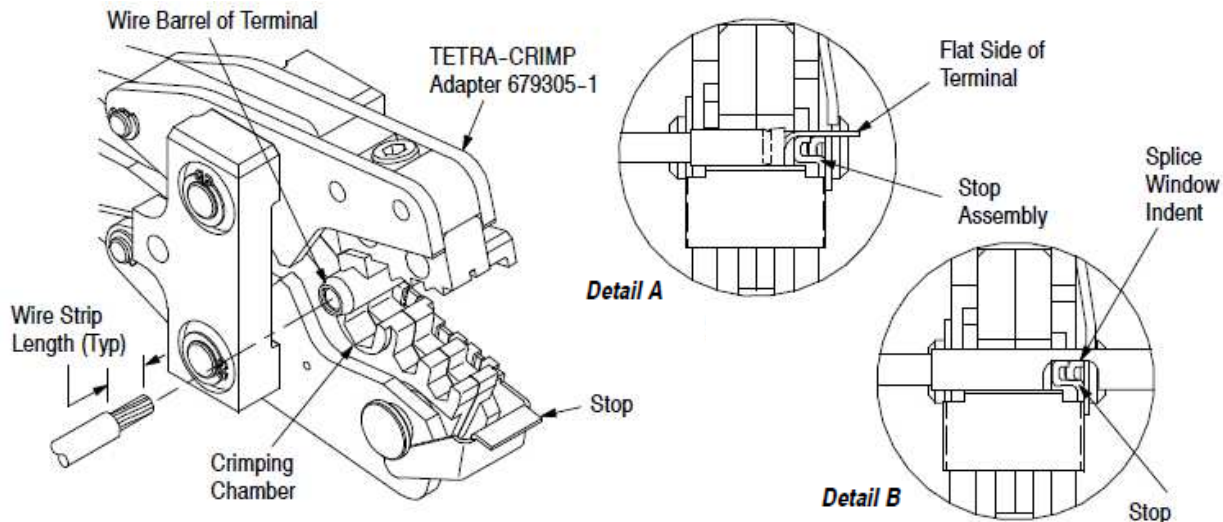

Figure 2
- If crimping a terminal, make sure flat side faces away from Stop (see Figure 2, Detail A).
- If crimping a splice, seat the splice window indent on the Stop (see Figure 2, Detail B).